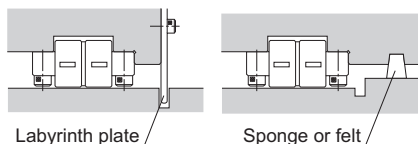

Fig.3
- (4) Two strategies for laterally oriented protection against contaminants are illustrated in Fig.3.